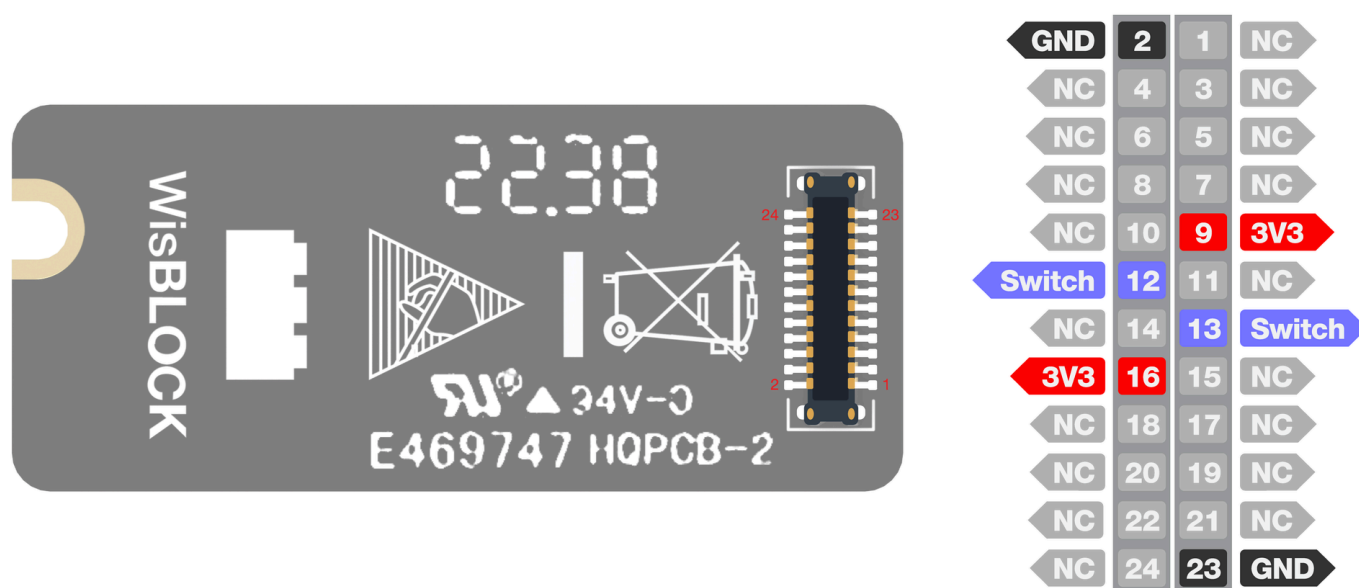

Figure 3: RAK13011 WisBlock Magnetic Switch Sensor Module Pinout
**Switch**, **3V3**, and **GND** of RAK13011 are connected to the WisSensor connector, as shown in Figure 3.